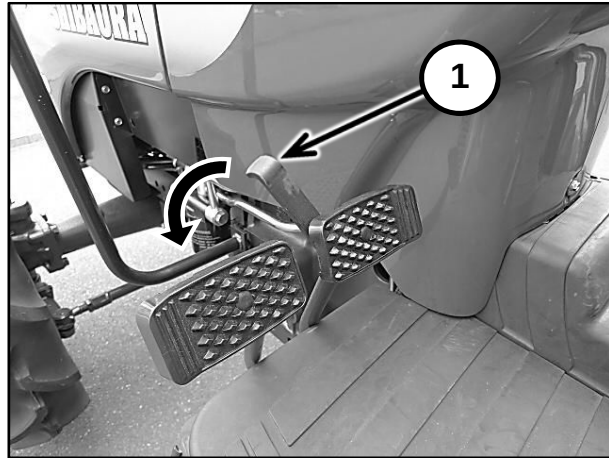

Figure 2-26
The brake pedal lock (1) in Figure 2-26, is used to secure the brake pedals together. Lock the pedals together, as shown in the illustration, whenever the tractor is operated at high speeds or when the tractor is used on the highway.